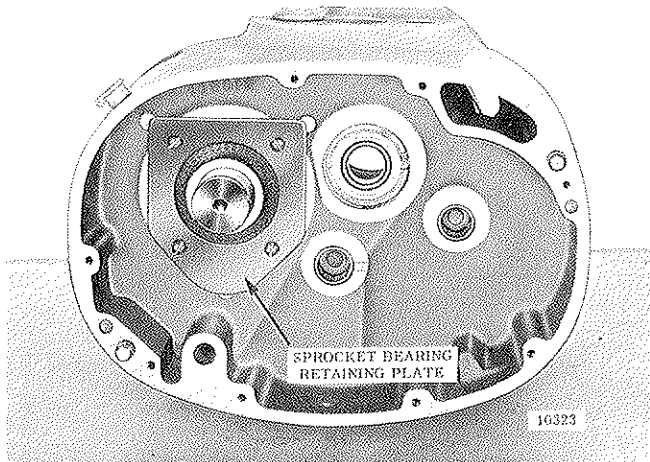
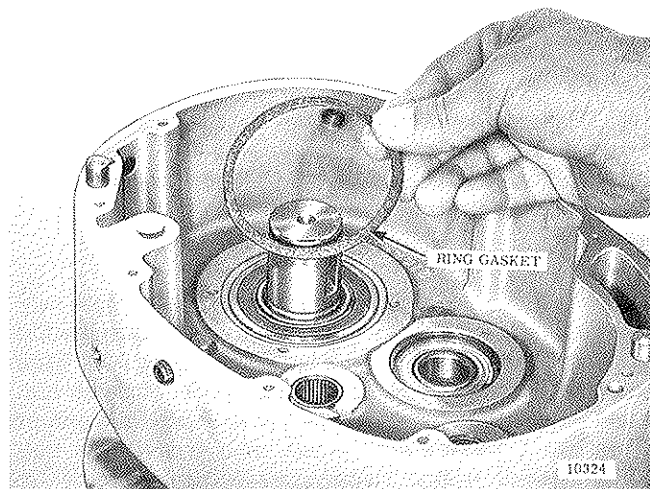

Figure 7-18. View of Sprocket Bearing Retaining Plate
Figure 7-19. Removing Sprocket Bearing Ring Gasket
(2) Unscrew four fillister head machine screws securing sprocket bearing retaining plate and remove plate (fig. 7-18). Remove and discard ring gasket from groove around bearing (fig. 7-19).